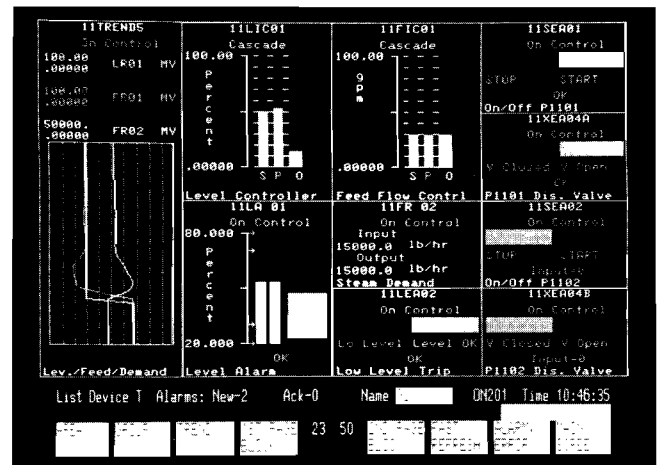

Figure 5. Group Display
**Real-Time Displays:** Color graphic displays are created and updated from the memory database. Softkeys and names select area, group, detail, point, trend, and alarm color displays. The area display shows any four groups. The group display shows any four to 16 blocks, including trends. For example, a group might include a trend, two PID blocks, two alarms, a calculated variable, and three digital states. See Figure 5 for an example. The operator may create additional groups and areas on-line.